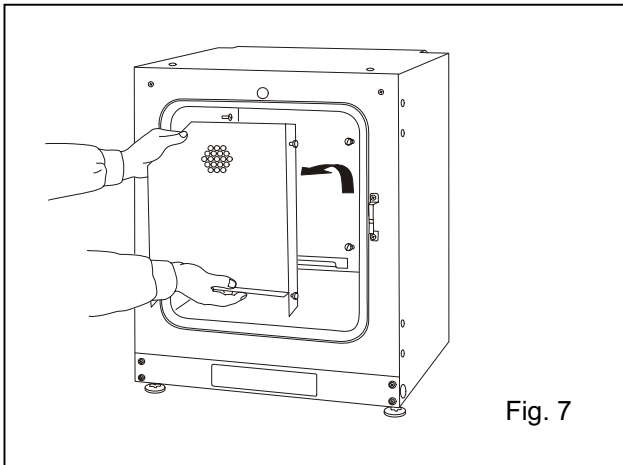

Fig. 7
8. To remove the rear duct, lift it up as shown in Fig. 7.